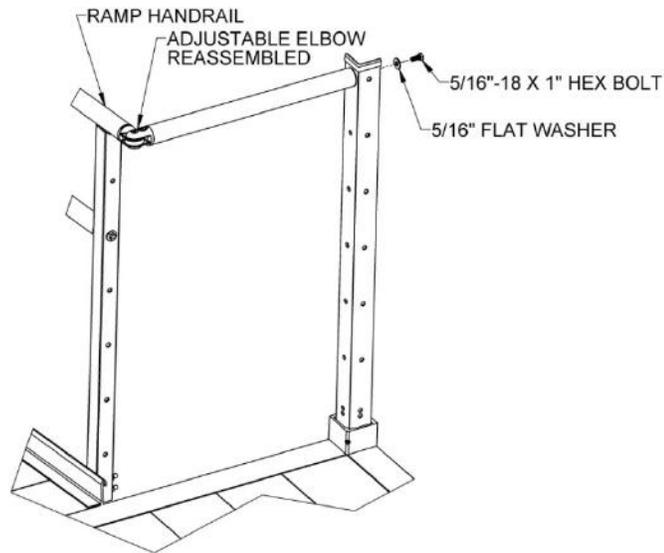

FIG. 5.6
- 5.4.7. Install a 5/16"-18 x 1" hex bolt through a 5/16" flat washer and the upper hole in the angle post into the 5/16"-18 round threaded insert, then tighten all fasteners securely (FIG. 5.6).